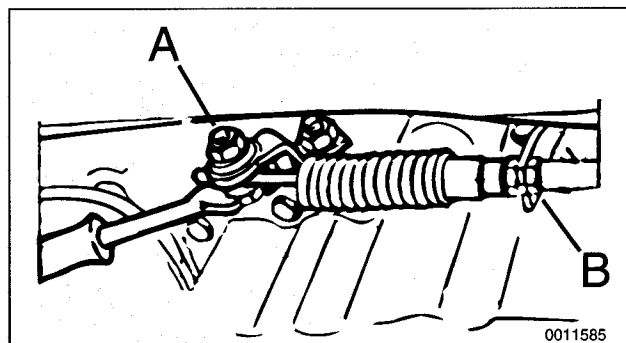

Fig. 7. Selector lever cable clamping nut (A). Loosen cable clamping nut (B) and remove cable from bracket. Always counterhold clamping bolt when loosening nut.
7. With selector lever in **Park**, disconnect shift selector lever cable from lever and remove cable bracket. Hold linkage clamping bolt stationary when loosening clamping nut. See Fig. 7.